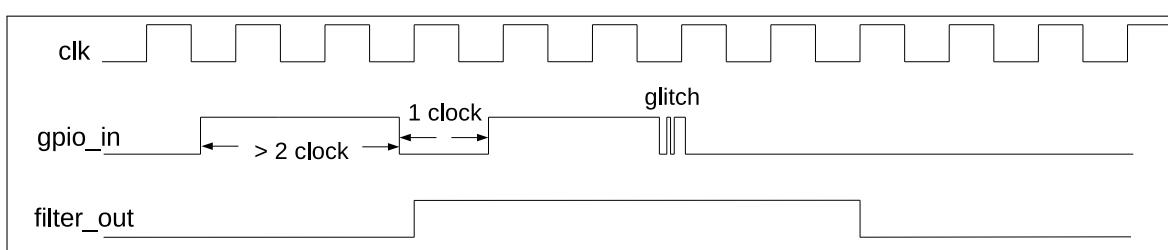

Figure 6-4. Filter Timing of GPIO Input Signals
- Optionally enable the filter for pin input signals by setting the register `IO_MUX_FILTER_EN`. Only the signals with a valid width of more than two APB clock cycles can be sampled, see Figure 6-4.